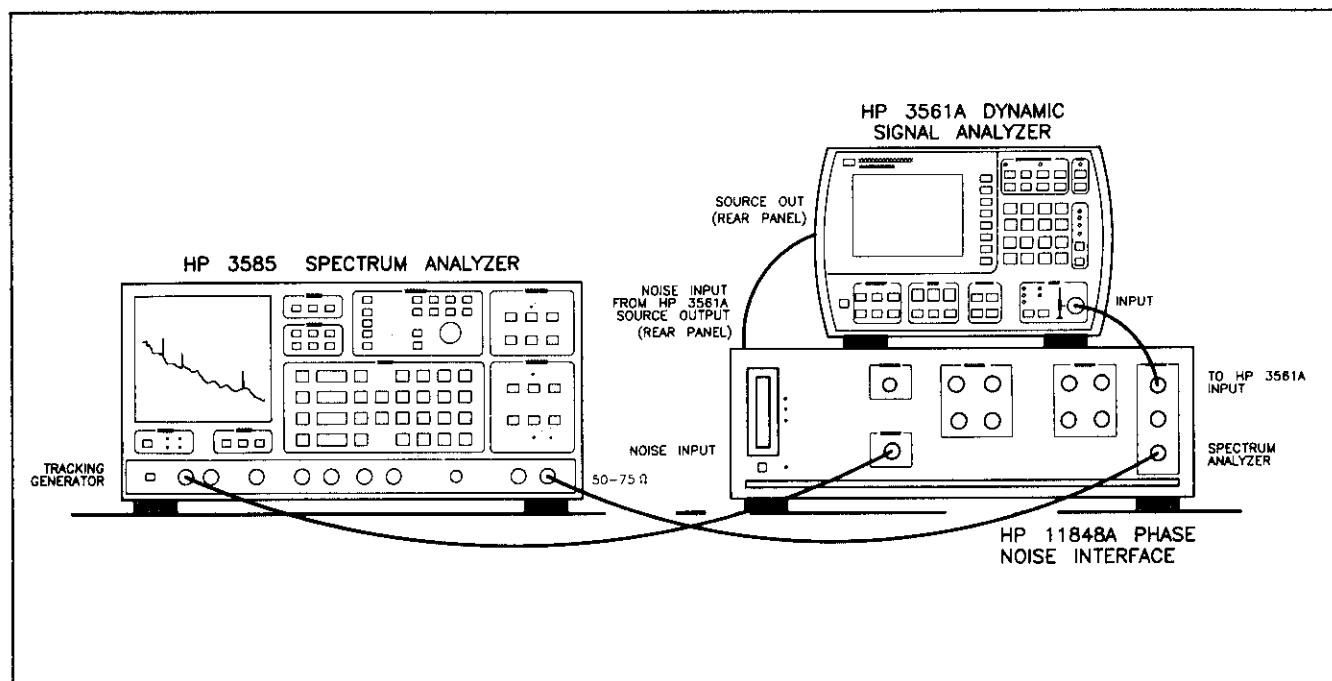

Figure 31. Fifth Option 2 Calibration Setup
18. Connect the instruments as shown on the display and in figure 31.